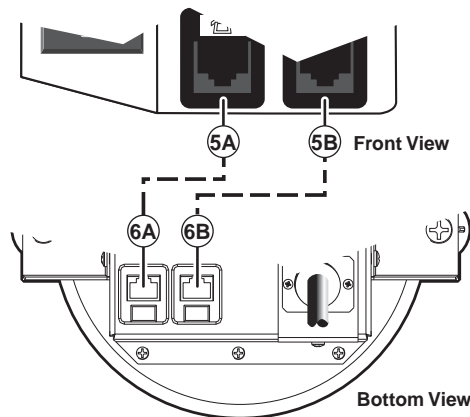

Figure 2-8 — Configuration of RJ-45 connectors
When cabling the front panel and the underside of the enclosure (figure 2-8), ensure that the bottom RJ-45 connections match up with the front panel RJ-45 connector locations. For example, match the front panel RJ-45 (CAT 6) network, data, or communications connection ⑤A with the underside RJ-45 connector ⑥A, match ⑤B with ⑥B and so forth.